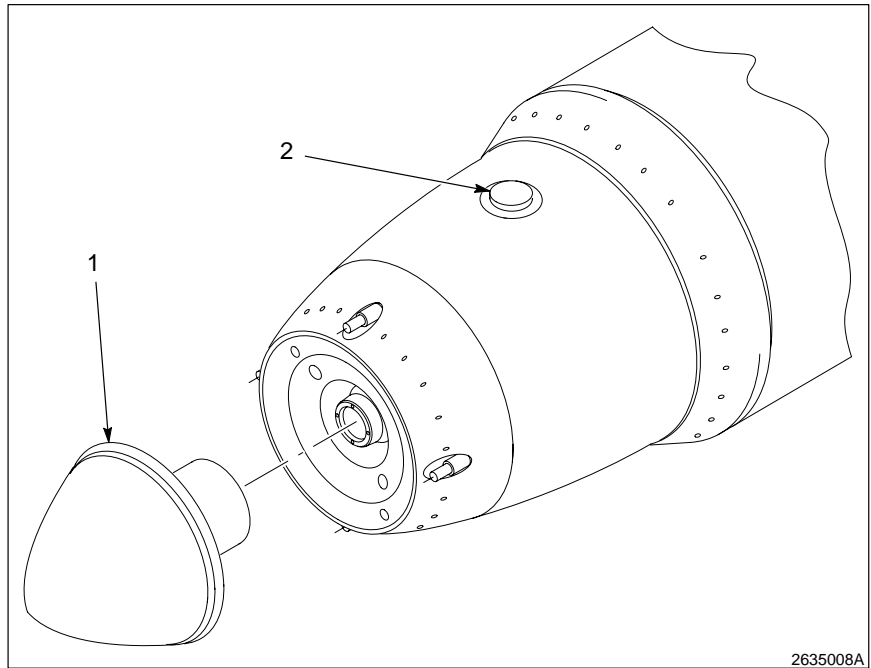

Fig. 4-1 Powder Bell
4. See Figure 4-1. Press and hold the spindle lock button (2).
5. Thread the powder bell cup (1) onto the spindle, turning the powder bell cup clockwise while facing the front of the powder bell.
4. See Figure 4-1. Remove and clean the powder bell cup (1). Refer to the *Maintenance* section for procedures.